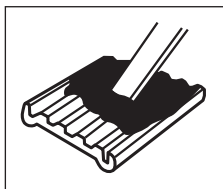

Figure 4
- 5) Apply 1/3 of the mixed epoxy to the bottom of a cable tie mount (Figure 4).